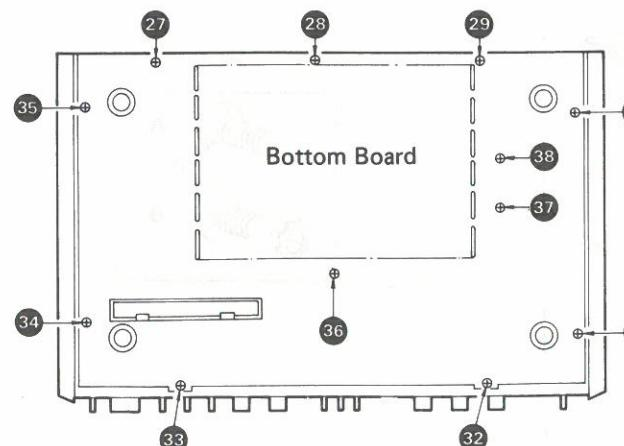

Fig. 8
- Remove the 12 setscrews (Fig. 8 : 27 ~ 38) of the bottom board.